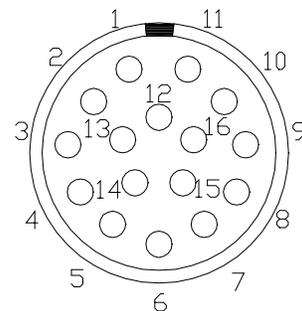

Figure 1. PPMS probe head black Lemo connector.
4. Use your meter to measure the resistance across pins 1 and 2 on the black Lemo connector at the probe head. See Figure 1. The expected value is about 20 Ω -30 Ω . Record this value: _____.
5. Use your meter to measure the resistance across pins 7 and 8 on the black Lemo connector at the probe head. See Figure 1. The expected value is about 20 Ω -30 Ω . Record this value: _____.